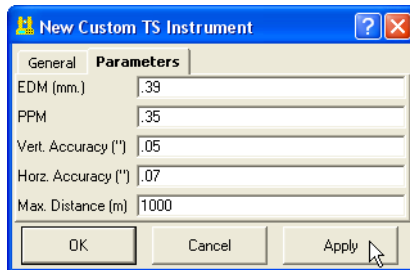

Figure 5-85. New Custom TS Instrument – Parameters
5. Click the **Parameters** tab and enter the *EDM*, *PPM*, vertical and horizontal accuracies, and maximum distance (Figure 5-85).